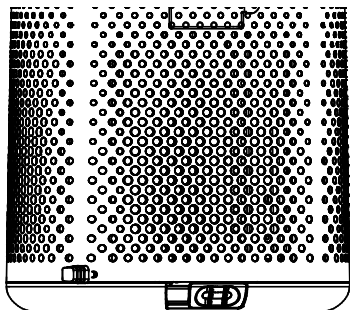

fig. 1
2. Rotate the device by 180 degrees, so that the cover (5) faces upwards. Place the device on a soft cloth so that it does not scratch the surface of the tabletop.
3. Gently move the slide (6) locking the filter cover (fig.1).